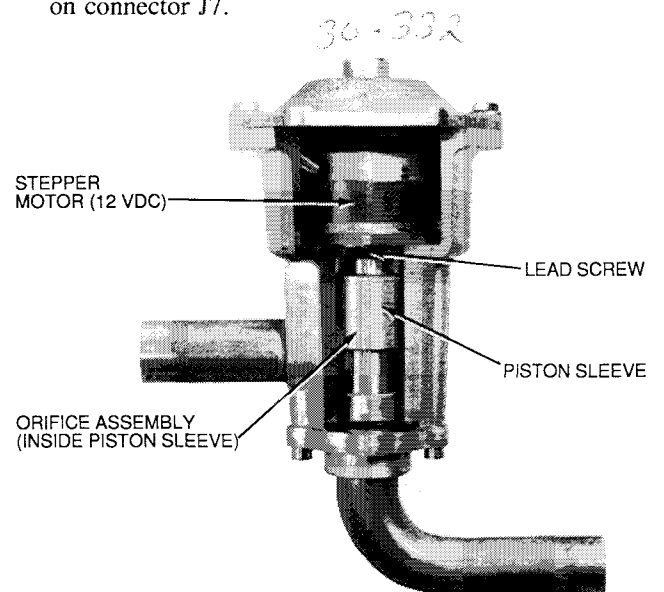

Fig. 34 – Electronic Expansion Valve (EXV)
ELECTRONIC EXPANSION VALVE (EXV) — A cut-away view of valve is shown in Fig. 34.
4. Note position of lead screw (see Fig. 34). If valve has responded properly to processor signals in Step 5.1 above, valve should be fully open and lead screw should protrude approximately 1/4 in. (6 mm) to 3/4 in. (19 mm) above top of motor.